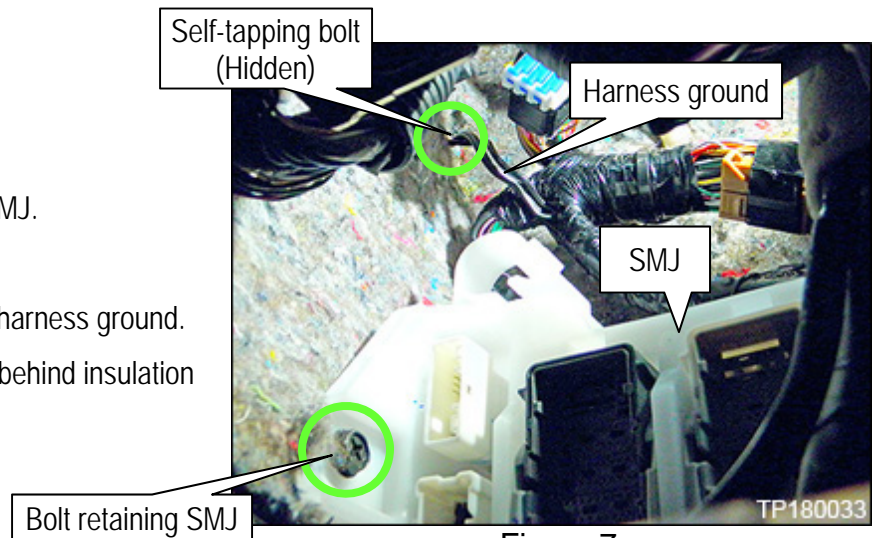

Figure 7
**NOTE:** Bolt hidden in Figure 7 behind insulation material.